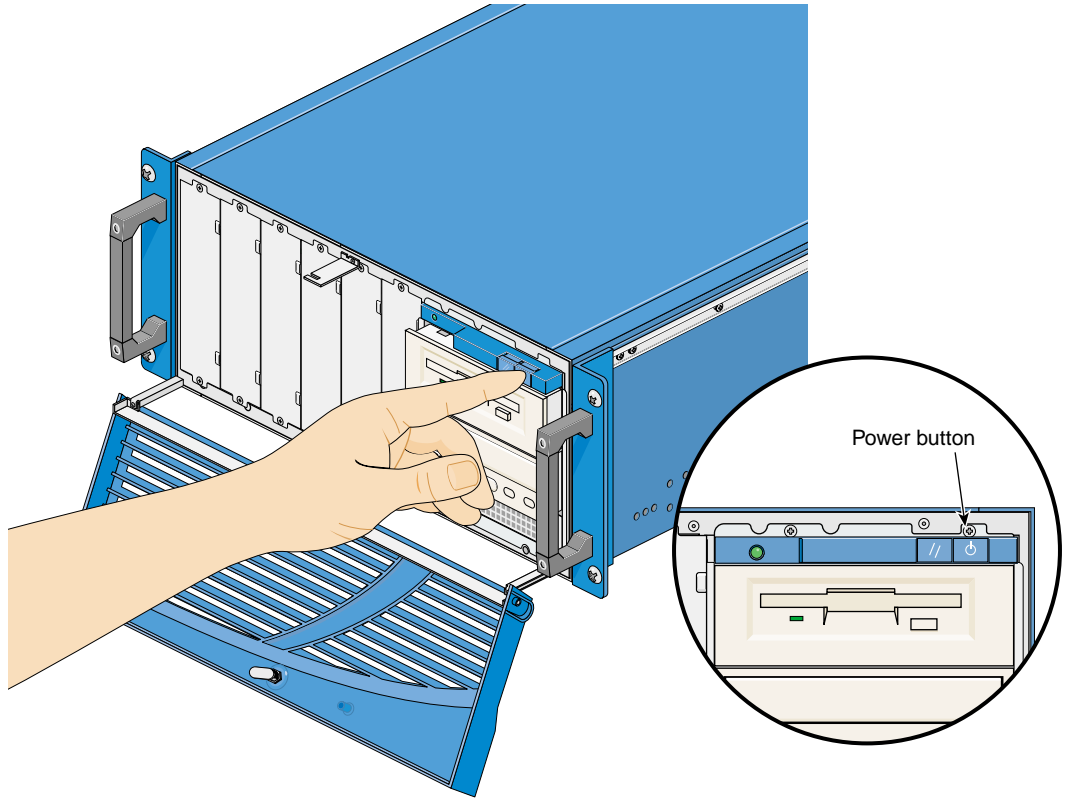

Figure 3-3 Powering On the Node
- Power on the node by pressing the button at the far right above the floppy disk drive; see Figure 3-3.